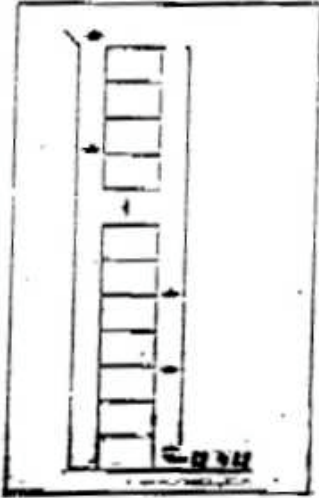

FIGURE 7
5. Ventilate each floor by providing a discharge opening, such as a window or door, on each floor. An opposite stairwell can also be used, utilizing the stairwell that has the roof access for the discharge. (See Figure 7.)